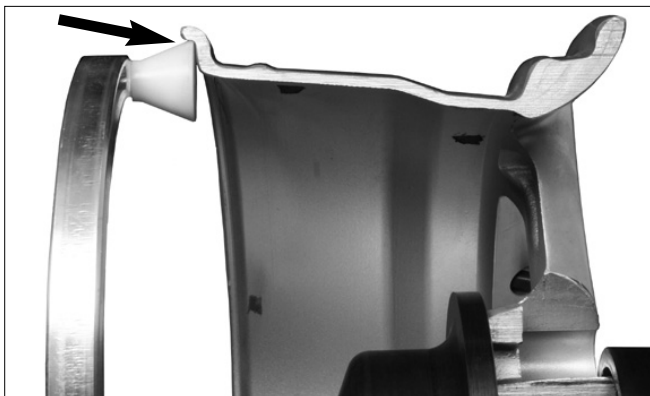
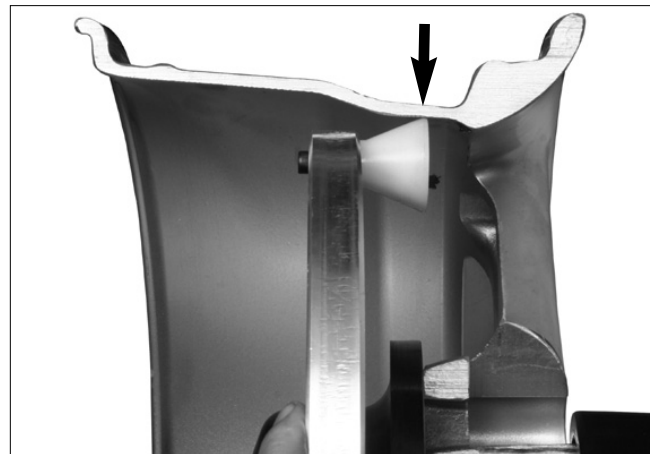
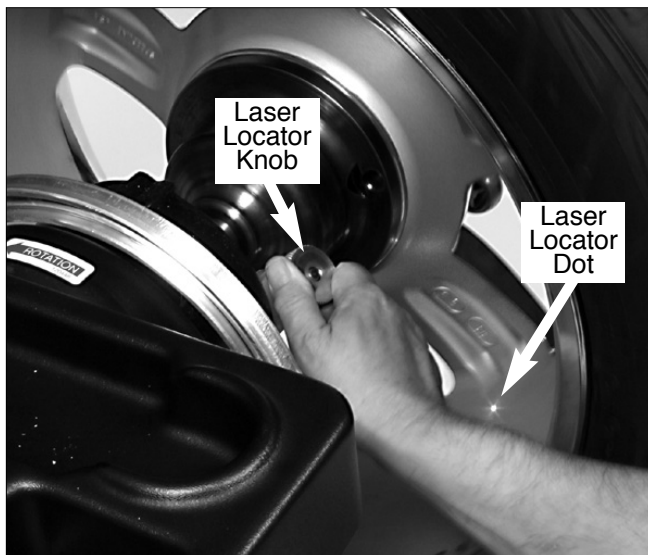
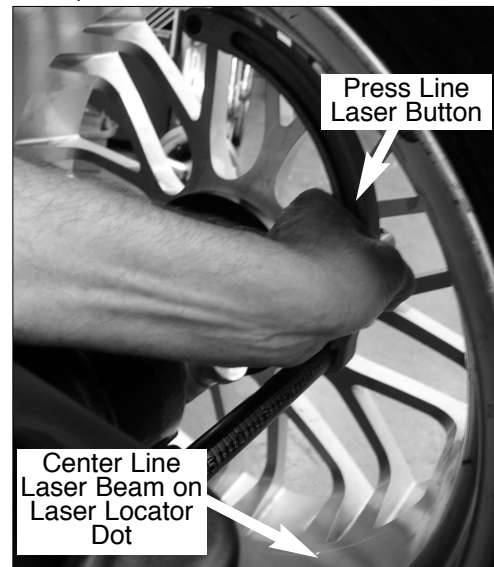

Figure 6B - Clip-on Weight Location Viewed on a Cut-Away Rim for Clarification.
Figure 7A - Hidden Weight Location Viewed on a Cut-Away Rim for Clarification.
Figure 8 - Positioning Laser Dot At T2 - Tape Hidden Weight Location (A2)
Figure 9 - Positioning Line Laser Beam At T2 - Tape Hidden Weight Location (A2)
When prompted by balancer instructions, use the offset arm (figure 6A) to enter A & D measurements automatically. Pull the arm out and up against the wheel flange; hold it still at the clip-on weight location (figure 6B), against the wheel flange, and wait for the BEEP.
Be sure to place the offset arm on the wheel flange at the clip-on weight location as shown figure 6B.
If the T2 - Tape (hidden Tape-A-Weight®) location is selected, use the offset arm to enter A2 & D2 measurements automatically. After the A & D measurement is entered, move the arm from the clip-on weight location to the inner area of the wheel; up against the rim at the outboard weight placement location (see figures 7A & 7B). Wait for the BEEP.
If the T2 - Tape (hidden Tape-A-Weight)® location is selected, use the laser locator to point to the hidden weight location (figures 8 & 7B). Rotate laser locator knob to position the laser dot outboard at the desired T2-Tape (hidden Tape-A-Weight)® location.
If the T2 - Tape (hidden Tape-A-Weight)® location is selected, use the line laser to align the offset arm with the laser locator dot (figures 8 & 7B); entering A2 & D2 measurements automatically. Grasp arm at the line laser and pull out and up to the wheel flange (figure 6B). Hold arm still at the clip-on weight location and wait for BEEP. Then, before returning arm to home position, press button on line laser to activate the line laser beam. Move arm to inner area of wheel and align line laser beam with laser locator dot (figure 8). Hold arm still, up against the rim, in the same plane as the T2-Tape (hidden Tape-A-Weight)® location (figure 7A & 7B) and wait for BEEP. Refer to figure 9.
**3.** Rotate the laser locator knob to position the laser locator dot at the desired weight location. See figures 8 & 7B.